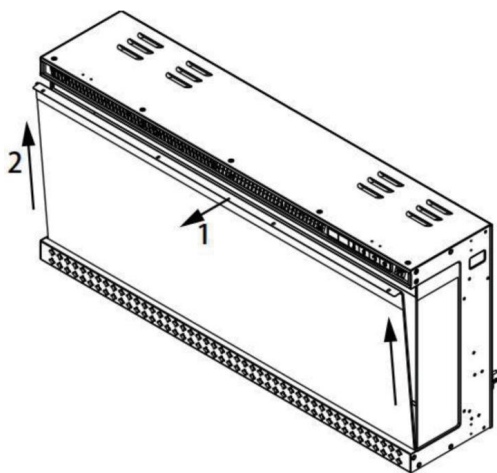

Fig2
2.Take and pull up the front tempered glass out off appliance, see Fig.2